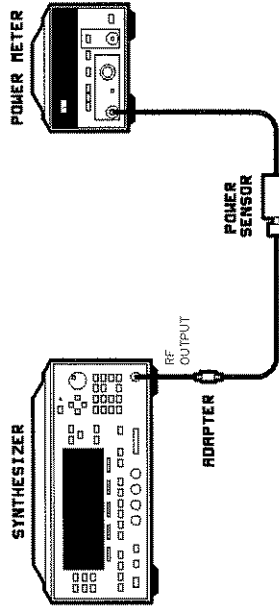

Figure 2-5. Power Accuracy Test Setup
1. Turn on the equipment shown in Figure 2-5 and let them warm up for at least one hour. Press **[PRESET]** on the synthesizer.
3. Connect the equipment as shown in Figure 2-5.